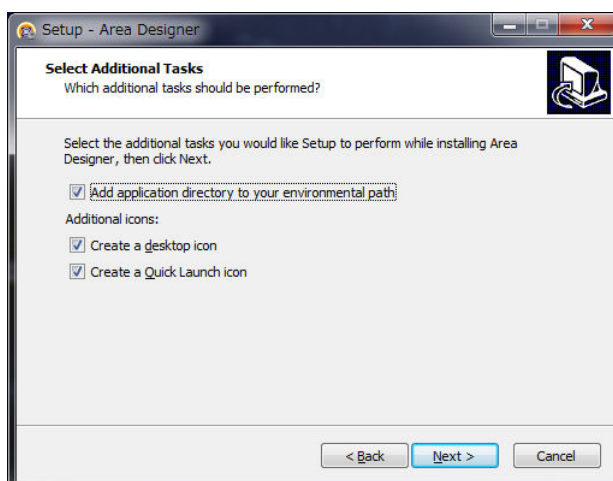

Fig 2-5 Select additional tasks
7. As shown in Fig 2-5 click next then installation of “Area Designer” will start.